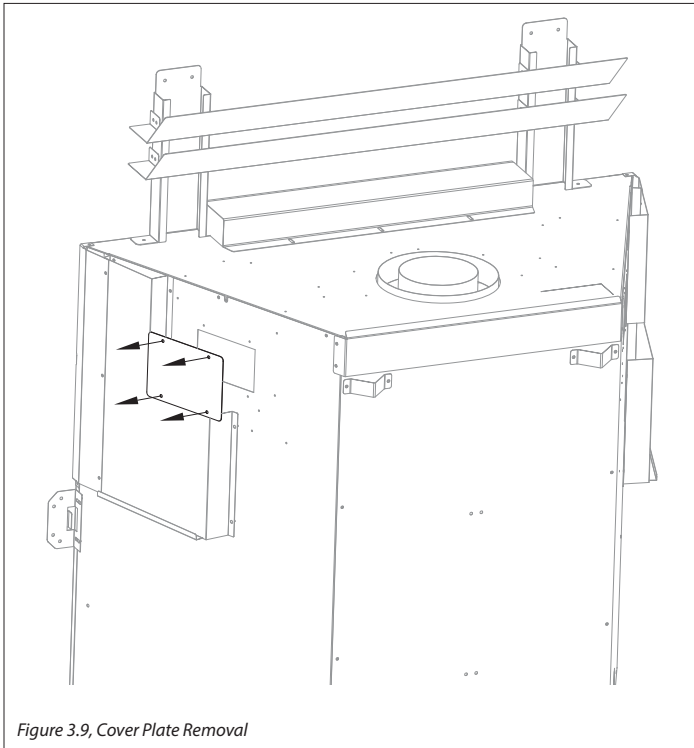

Figure 3.9, Cover Plate Removal
Figure 3.9 shows removal of the Heat Transfer Kit cover plates. There are (2) square cover plates located on the left and the right side of the outer shell of the appliance. This appliance can have (2) Heat Transfer Kits installed at the same time. It can be up to two of the same heat transfer kit or a combination of interior and exterior kits.